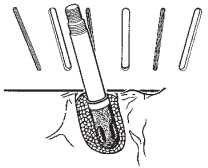

Fig. 3
2. Thread the Alignment Pin by hand directly into the divergent implant (or implant analog on a stone model) being careful not to cross-thread the pin. Place the stainless steel Angle Measurement Guide (Zest order No. 9530) behind the Alignment Pin, level with the path of prosthesis insertion, to determine the divergence in degrees. ( Fig. 3) An additional Alignment Pin can be placed into an adjacent non-divergent implant to determine the difference in the angle between it and the divergent implant.